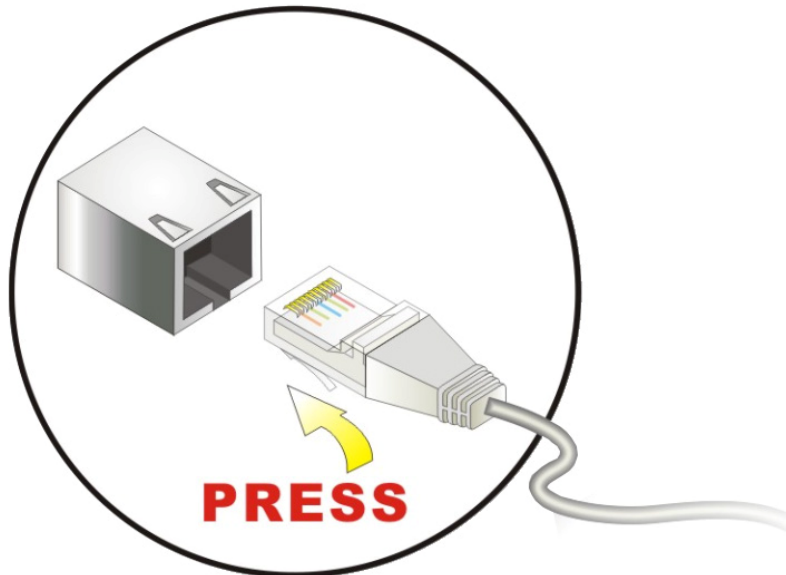

Figure 5-16: LAN Connection
Step 2: Align the connectors. Align the RJ-45 connector on the LAN cable with one of the RJ-45 connectors on the EX-9945GSE 5.25-A. See **Figure 5-16**.